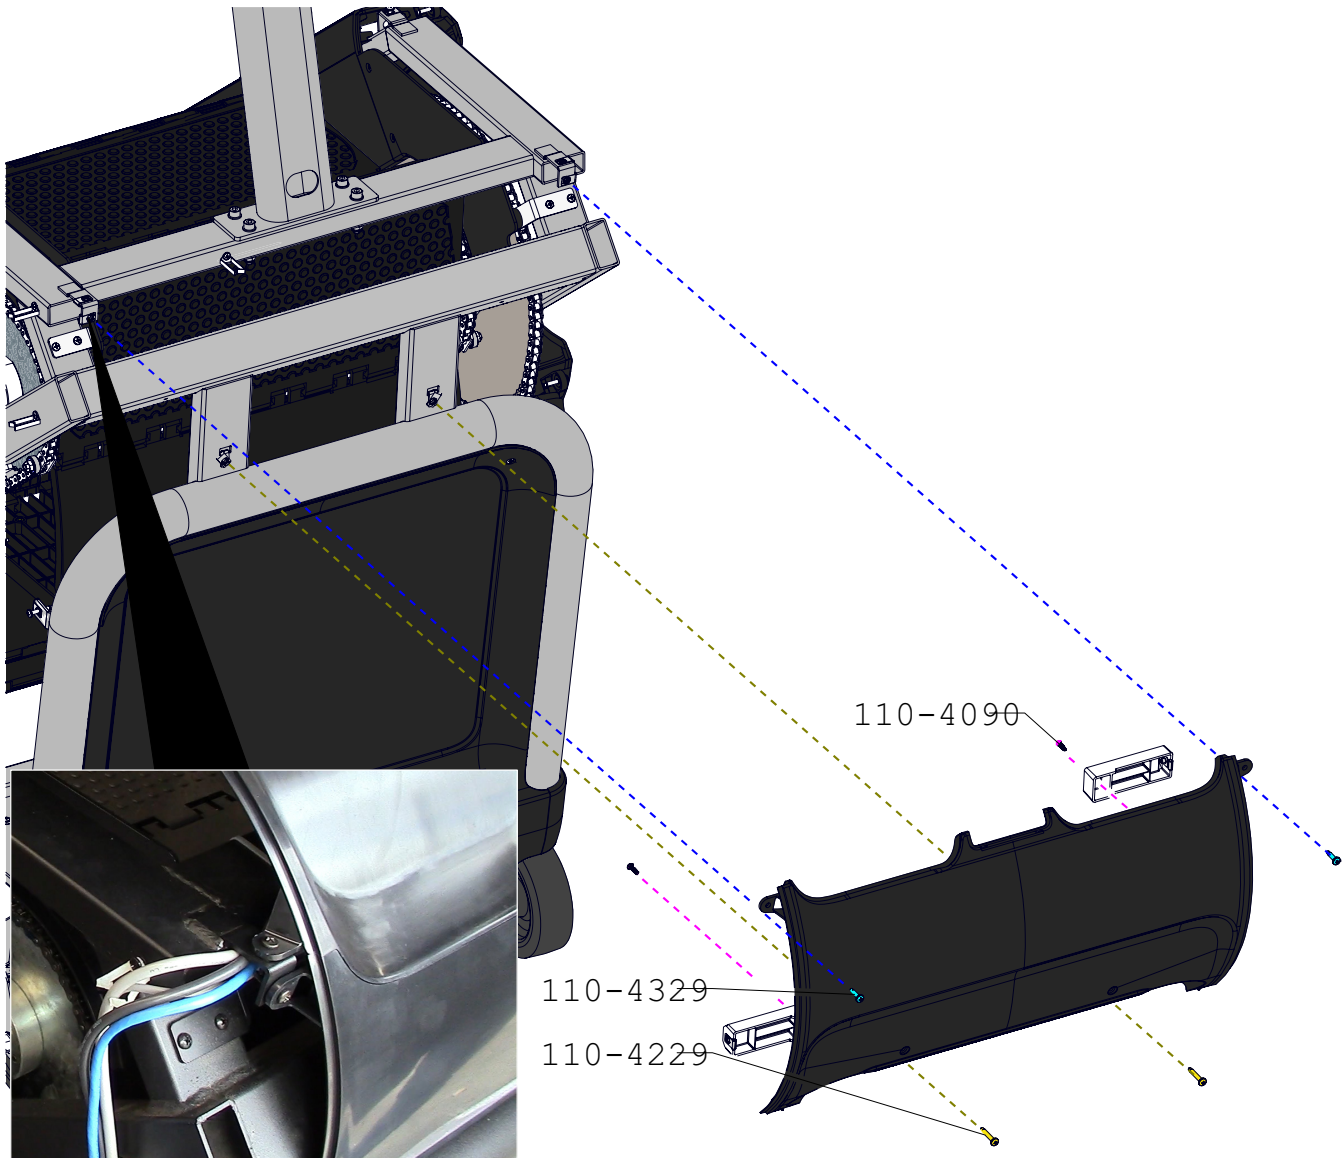

Fig. 25
**⚠ Note:** Take care that no wire is pinched by screws prior to tightening hardware (See Fig. 25 inset).